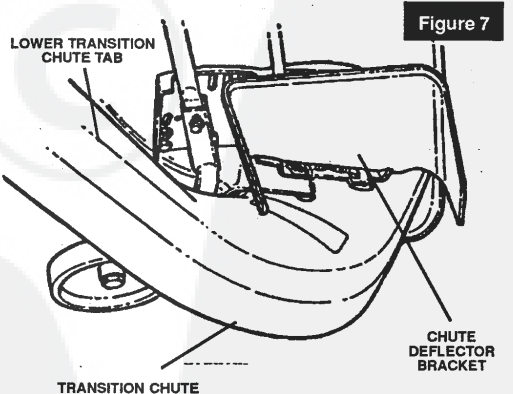

Figure 7
4. Slide tab on lower end of transition chute under center of chute deflector bracket (figure 7) until stud on latch lever snaps into hole in end of tab. **NOTE:** Back side of transition chute should be on inside of deck opening and front side of transition chute should be on outside of deck opening.